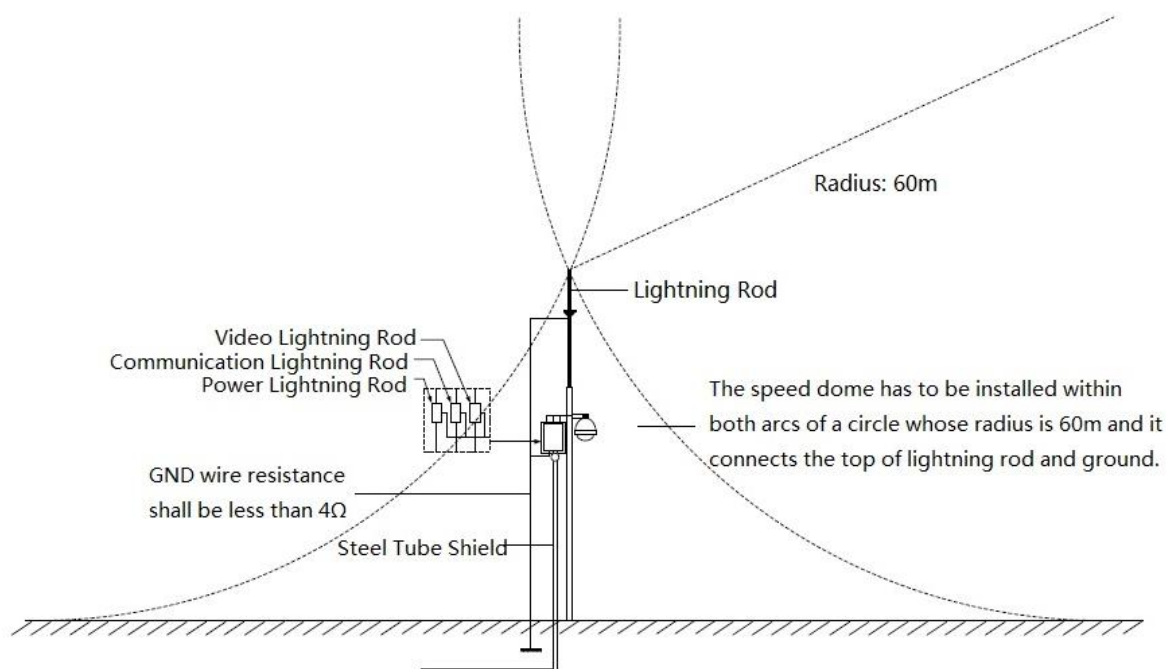

Figure 7-1
- System shall adopt equal-potential wiring. The earth device shall meet anti-jamming and at the same time conforms to your local electrical safety code. The earth device shall not short circuit to N (neutral) line of high voltage power grid or mixed with other wires. When connect the system to the earth alone, the earth resistance shall not be more than  $4\ \Omega$  and earth cable cross-sectional area shall be no less than  $25\ \text{mm}^2$ . See Figure 7-1.